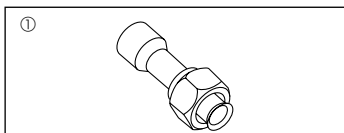

Fig. 1-1
1.6. Accessories of outdoor unit (Fig. 1-1) (RP170/200)